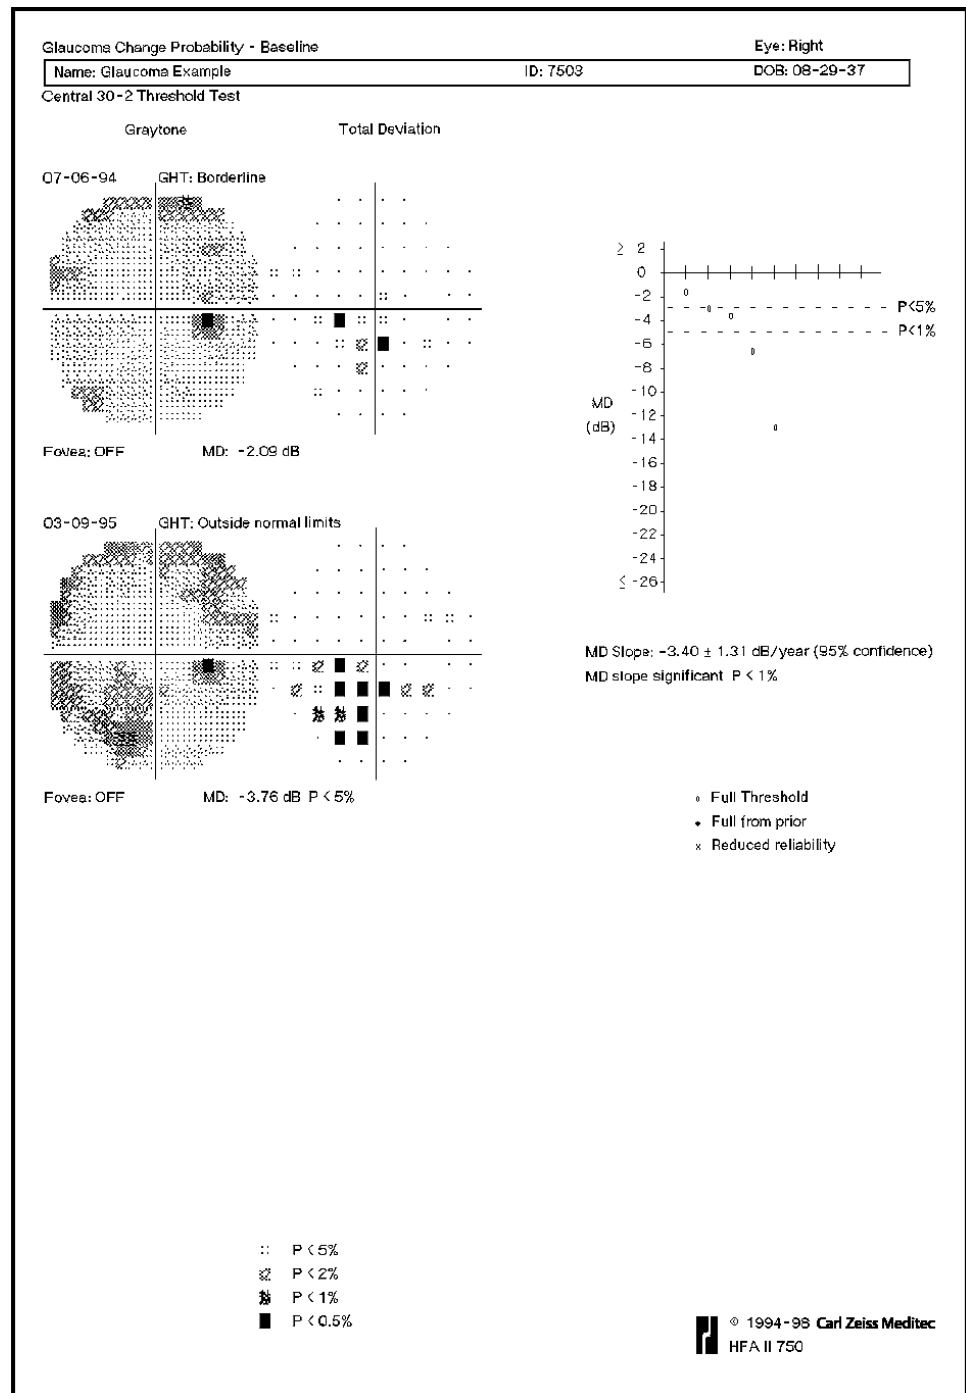
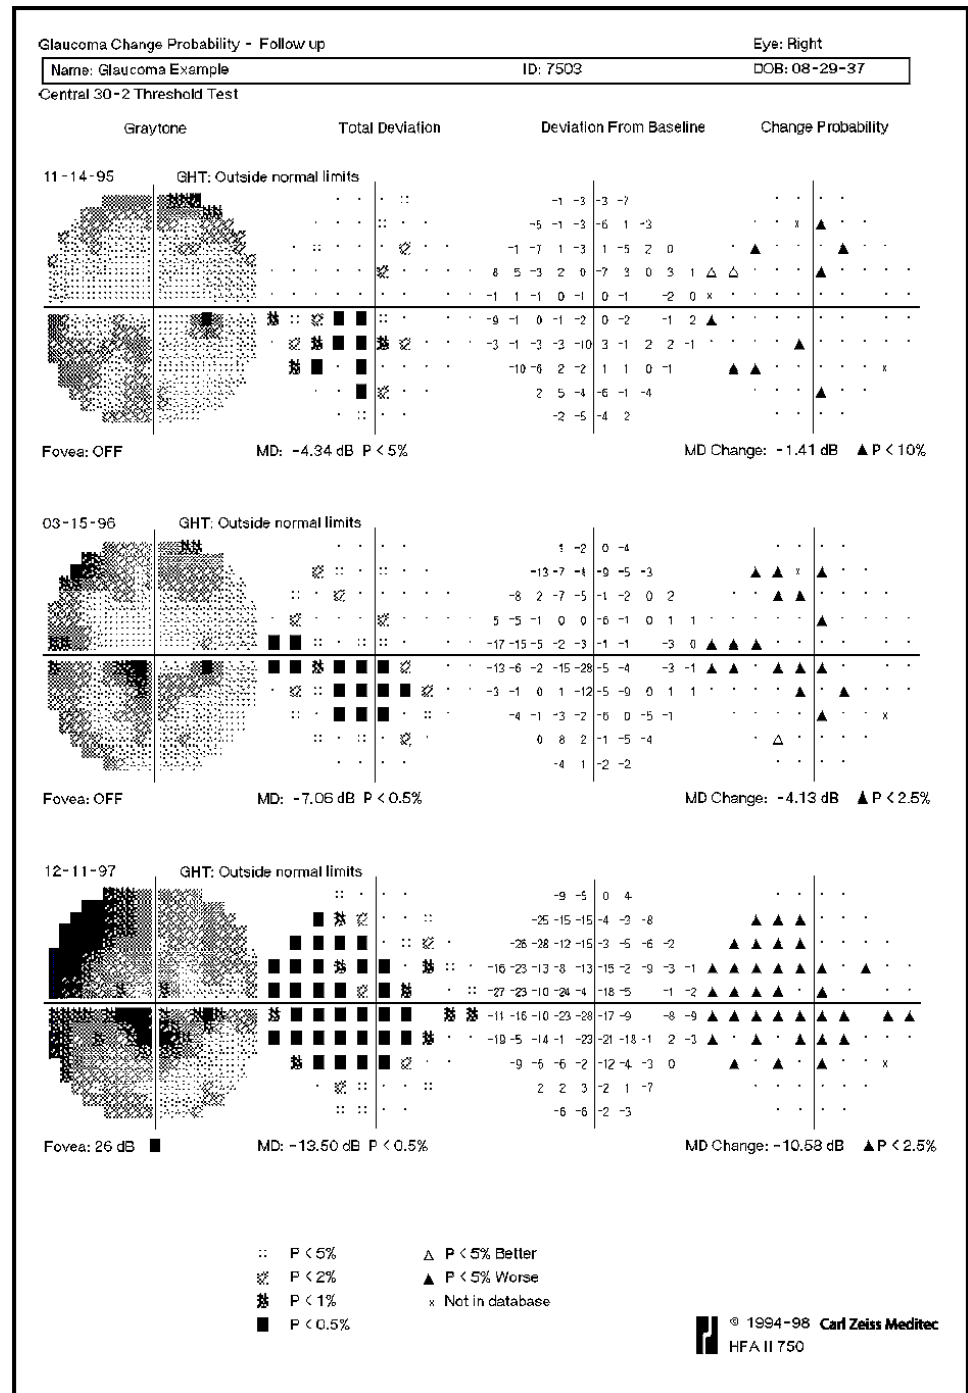

Figure L.2 The Glaucoma Change Probability – Baseline
Figure L.3 The Glaucoma Change Probability— Follow Up
The glaucoma change probability printout (Figure L.2 and Figure L.3) includes the patient information that appears on other STATPAC printouts. Two data presentations (graytone and total deviation plot) for the Baseline tests are printed on the upper left section of the printout. A plot of the Mean Deviation (MD) for each test plus the linear regression analysis of mean deviation, which is discussed below, occupy the upper right section of the printout. The first column on the left of the printout contains the graytone presentation of test results. The total deviation plot appears in the